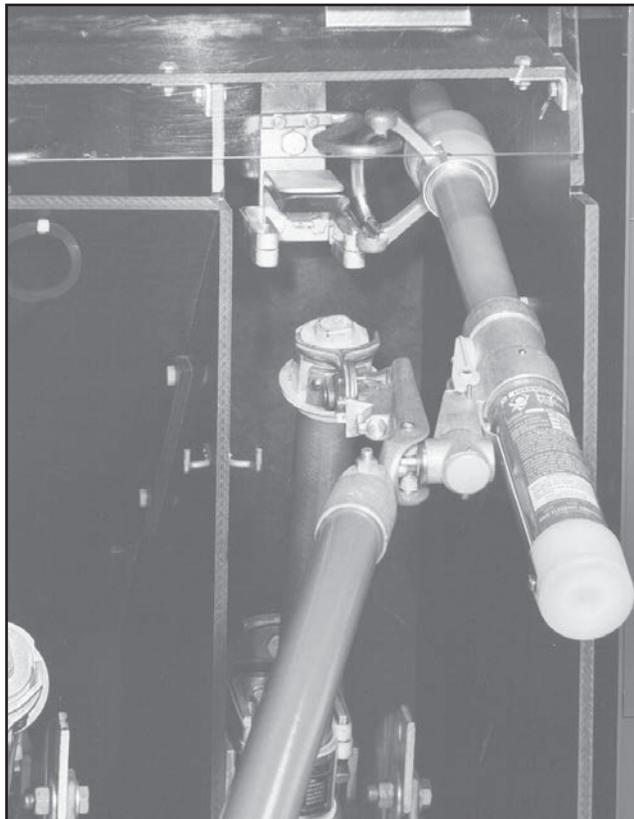

Figure 10. The Loadbuster tool in a Tripped position.
- STEP 3.** To open the circuit, operate the Loadbuster tool with a firm, steady pull until it is extended to its maximum length. See Figure 10. Avoid jerking and hesitation. The resetting latch will keep it open. Commutation arcing may be noted at the pull-ring hook and at the anchor, but the only sound will be that of the Loadbuster tool tripping.